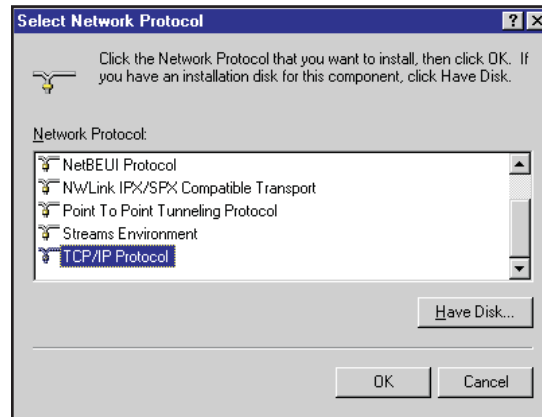

Figure 205 Select Network Protocol
3. It is now time to add the TCP/IP protocol. Select the Protocols notebook tab on the Network Settings screen and press the **Add** button to bring up the Select Network Component Protocol dialog (Figure 205).